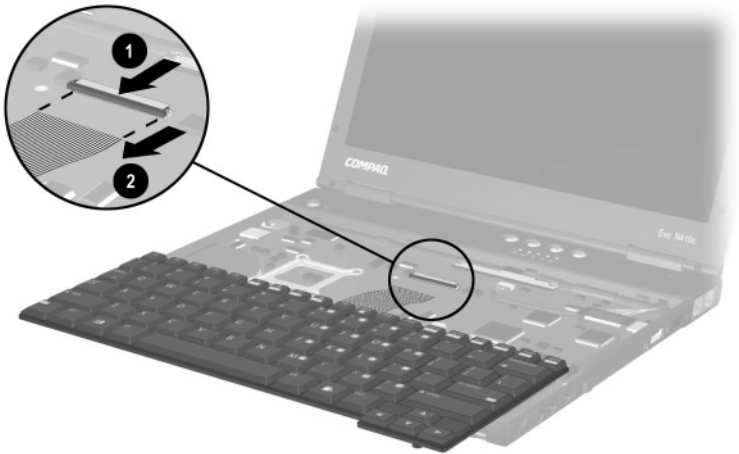

Figure 5-19. Disconnecting the Keyboard Cable
8. Release the ZIF connector ❶ to which the keyboard cable is attached and disconnect the keyboard cable ❷ (Figure 5-19).